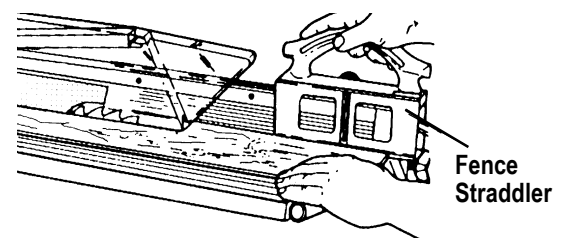

Figure C-9
5. When ripping stock less than 1-1/2" wide, use the fence straddler to finish the cut. See Figure C-9.